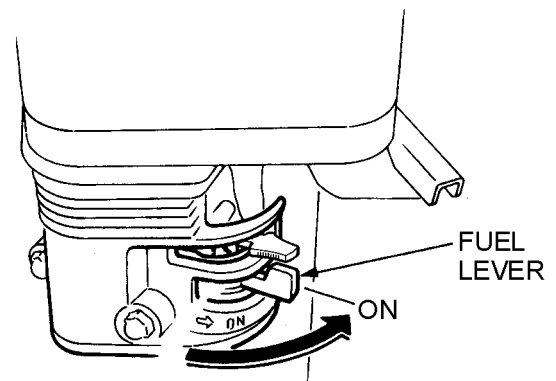

Figure 26. Engine Fuel Valve Lever (ON)
1. Place the engine fuel valve lever (Figure 26) in the "ON" position.